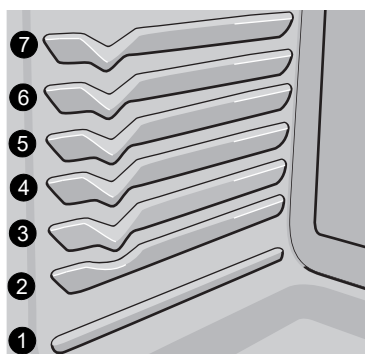

Figure 4: Oven rack positions
- For best results when baking cakes or cookies using two oven racks, place racks in positions 3 and 6 (See Figure 4).